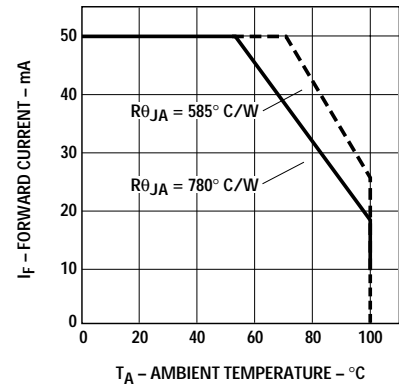

Figure 4. Maximum forward current vs. ambient temperature. Derating based on  $T_{JMAX} = 130^{\circ}C$ .
1. Derate linearly as shown in Figure 4.